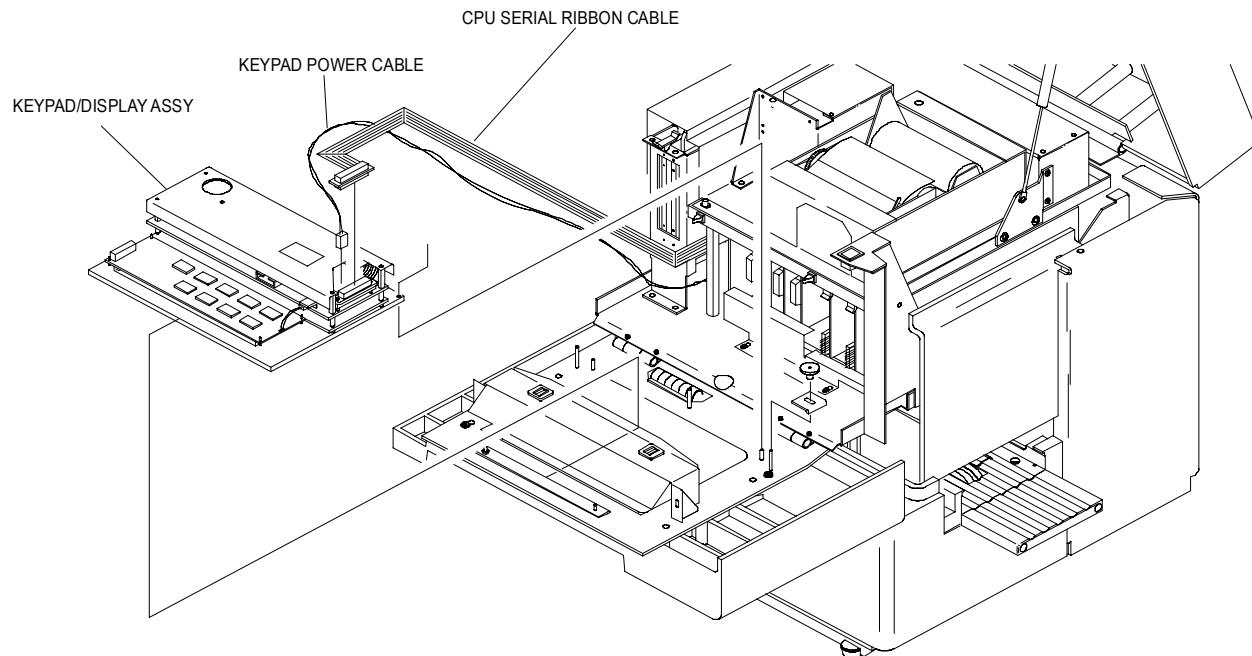

Figure 4-9. CPU Serial Ribbon Cable
4. Disconnect CPU Serial Ribbon Cable (**Figure 4-9**).